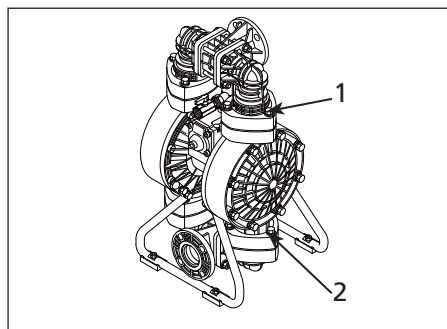

Figure 11-B
- Remove the 6 retainer bolts "2" from the in manifold and remove the in manifold (See Figure 11-A or 11-B).